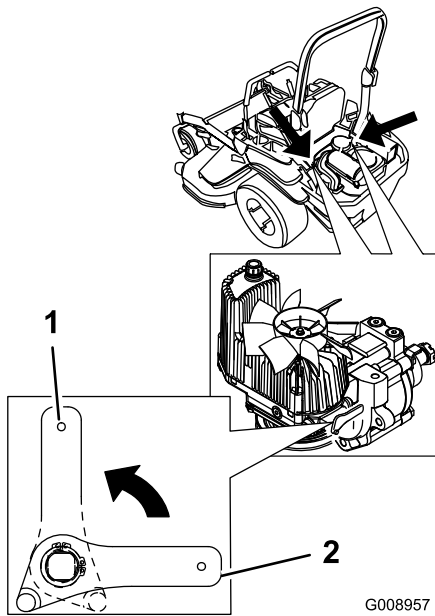

Figure 33
3. Rotate the release-valve levers vertically to push the machine (Figure 33).
5. Rotate the release valve levers horizontally to run the machine (Figure 33).